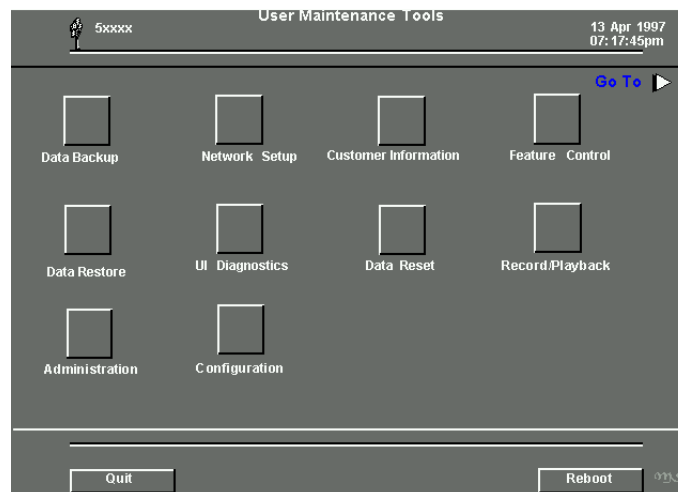

Figure 8-1 User Interface Level Diagnostic Menu
A message, “**Starting Service Tool,**” appears on the Sequoia video monitor. In about fifteen seconds, the User Interface Maintenance Tools menu appears on the Sequoia video monitor. Refer to Figure 8-1.
- 4 A message, "**STARTING SERVICE TOOL**", appears on the Sequoia video monitor. Within 45 seconds, the User Interface level diagnostic menu appears as seen in Figure 8-1.